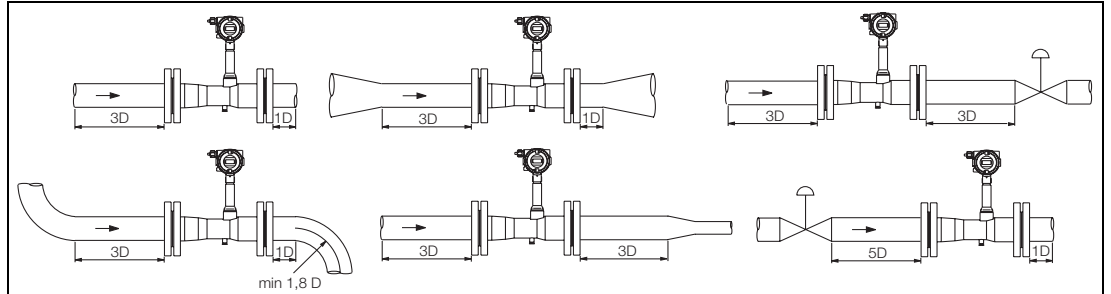

Fig. 5: Recommended In- and Outlet Straight Sections
- the recommended lengths of the in- and outlet straight sections are maintained (Fig. 5).
Based on its metering principle the Swirl Flowmeter in essence does not require any straight in- or outlet sections. Fig. 5 shows the recommended in- and outlet sections for various installation conditions. Additional in- and outlet sections are not required for single and double elbows installed up- or downstream from the flowmeter, when their radius is greater than $1.8 \times D$, nor are additional in- and outlet sections required when the flowmeter is installed downstream from a flanged reducer per DIN 28545 ($a/2=8^\circ$).